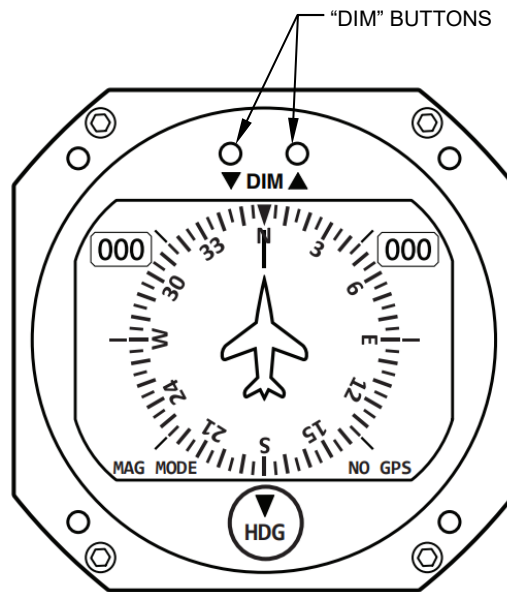

Figure 1
The heading indicator has brightness adjustments that can be adjusted in flight. On start-up, the instrument defaults to maximum brightness. The brightness controls are located at the top of the instrument and have an “up” (▲) arrow next to the button that increases brightness and a “down” (▼) arrow next to the button that reduces brightness. Reference Figure 1. Quickly pressing both buttons simultaneously will return the display to its maximum brightness.
On the heading instrument, the “MAG MODE” and “NO GPS” mode indicators will be lit on start-up. The “MAG MODE” indicator signifies that the instrument does not have a GPS signal and is operating as a magnetic heading indicator. Reference Figure 1. The “MAG MODE” indicator will stay lit until the instrument is able to acquire a GPS signal and/or the aircraft reaches a speed exceeding ten knots at which time the GPS input will become active. In the event the heading indicator loses GPS signal in flight, the “NO GPS” indicator will illuminate. The instrument will continue to work as a magnetic heading instrument and no special intervention is required on the part of the flight crew.
- i. While in flight, and after at least three minutes after turning on the instrument, depress and hold the two “DIM” buttons simultaneously for about ten seconds until the message “Gathering Mag Data” is displayed on the instrument. The instrument will gather data for the next ten minutes. Reference Figure 1.